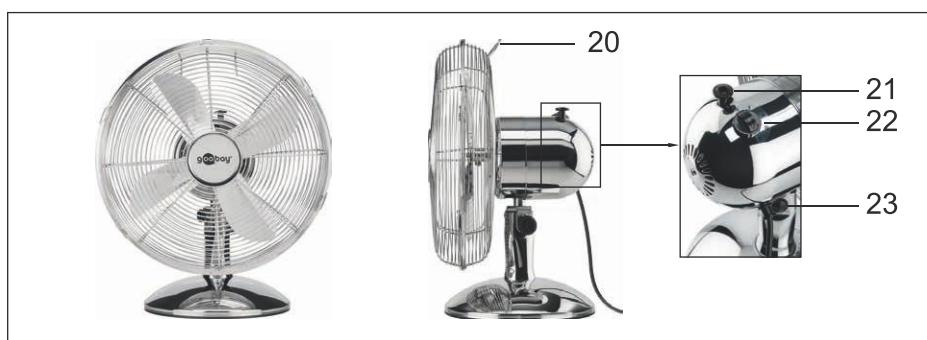

Fig.15: Ready mounted table fan
1. Hold the fan by the grip (fig. 15, no. 20) and place it on a dust free, and horizontal surface.
4. Loosen the tilt adjustment screw (fig. 15, no. 23).
The blower intensity can be adjusted in 3 steps by turning the rotary switch (fig. 15, no. 22):